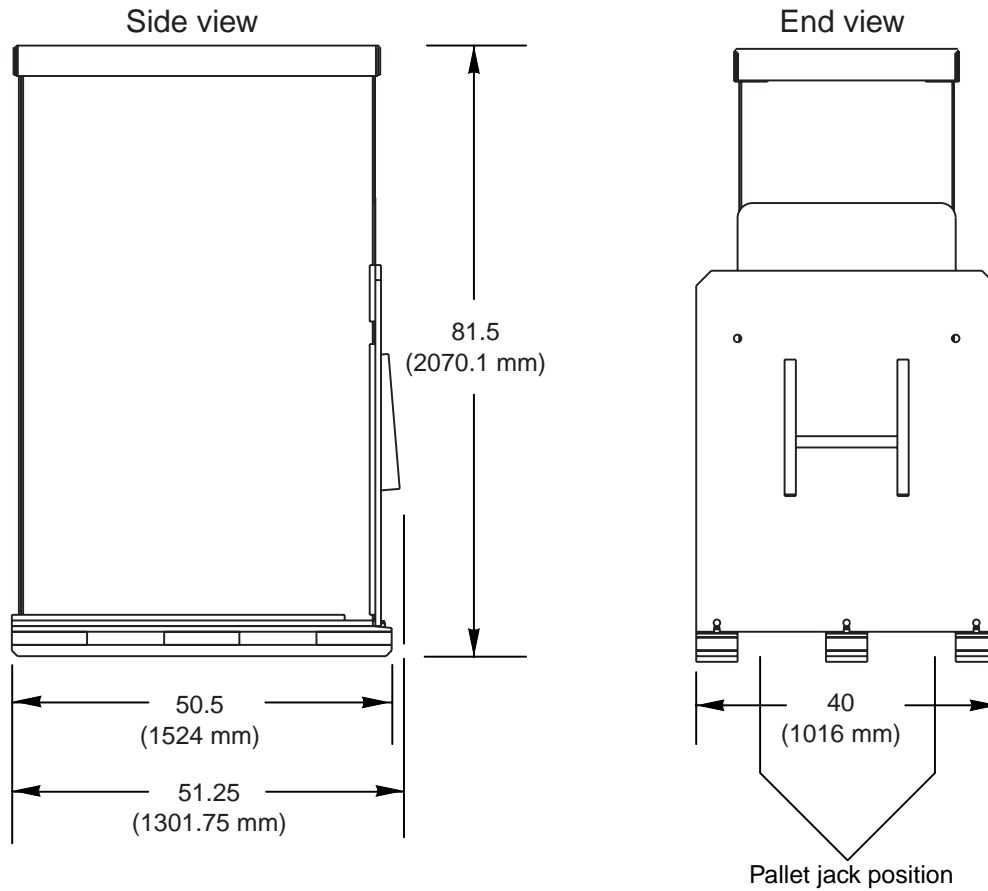
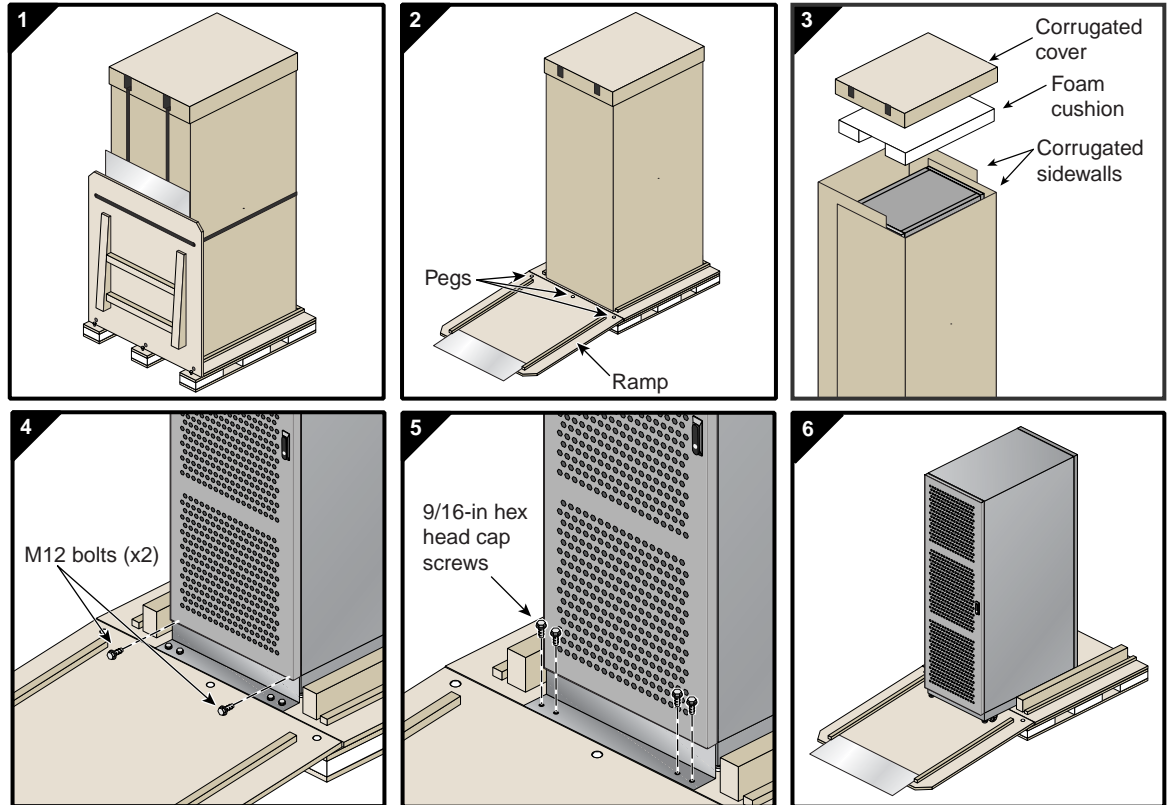

Figure 1-8 Dimensions of 39U Rack Shipping Container
Figure 1-10 Removing a Tall Rack from the Shipping Container
Figure 1-8 shows the lift openings and dimensions of the rack shipping container. This figure also shows where to position the pallet jack.
Use a pallet jack with forks that are 48 in. (122 cm) long or longer to transport the shipping container to the designated location. Refer to Figure 1-8 and Figure 1-10 for the container dimensions and location to position the pallet jack.
See Figure 1-10 as you follow these steps; the numbered illustrations correspond to the numbered steps. Ensure that the temperature of the rack is acclimated to the installation environment and that the system container is stable, and in an upright position
2. Position the ramp as shown in Figure 1-10. Holes in the ramp fit over the pegs in the base.